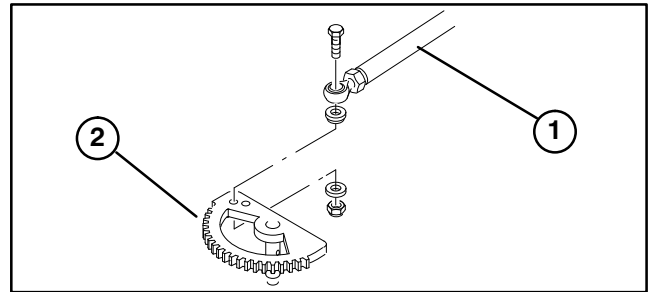

Figure 3
6. Remove capscrew, washers and locknut securing front end of steering rod to steering sector gear (Fig. 3). Re-position rod so curved end of rod is to the rear. Secure straight end of rod to steering sector gear with fasteners previously removed. Make sure a washer is on each side of steering sector. Tighten nut to 40–45 N·m (30–35 ft–lb).